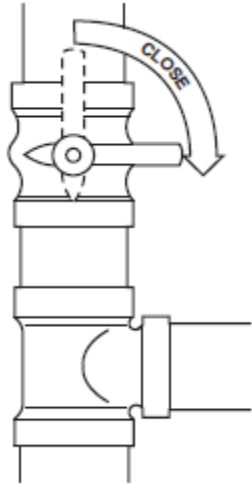

Fig. 17 – Close the External Manual Valve
2. Close the external manual gas valve. See Fig. 17.